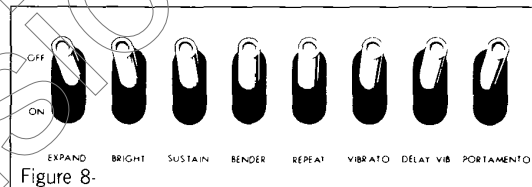
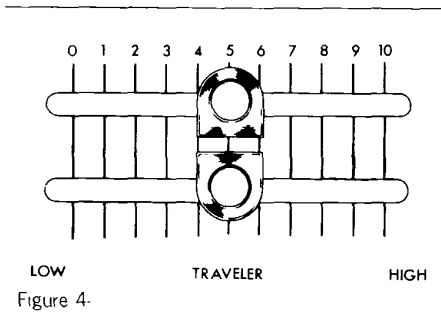
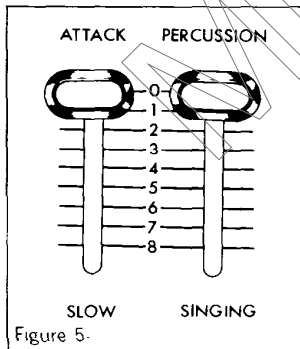

Figure 8-
Figure 4-
Figure 5-
To adjust Pitch, set Attack-Percussion slides (figure 5) to "8", and all "Instant Set Tabs" (figure 8) to OFF position.
1. EXPAND—This control is a sub-division of the traveler circuit. It provides "capturing" effect when used in conjunction with traveler (figure 4) and Attack/ Percussion group (figure 5). Creates brass, under-water effect, bubbling effect, growl, etc
REPEAT—This provides speed adjustment of the repeat "Instant Set" Control (Figure 8, # 5)
VIBRATO SPEED/DEPTH—These slides give full control over the Vibrato Speed and Depth when the Vibrato or Delay Vibrato "Instant Set" tab is utilized. (Figure 8,S #6 and # 7)